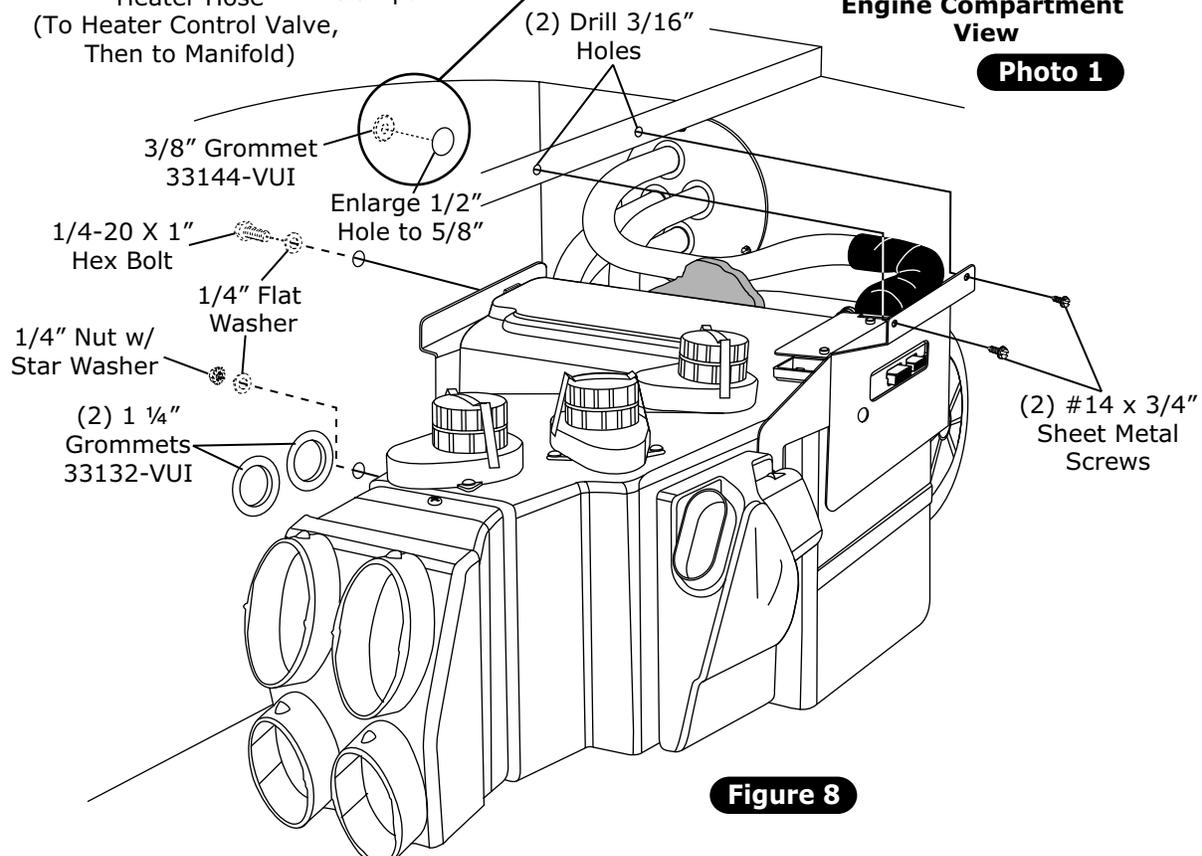

Figure 8
1. Install (2) 1 1/4" grommets in firewall (See Figure 8, below).
2. Enlarge 1/2" hole on firewall to 5/8" and install 3/8" grommet as shown in Figure 8 and Photo 1, below.
5. Using front evaporator bracket as a guide, mark and drill (2) 3/16" holes in cowl (See Figure 8, below).
6. Using (2) #14 x 3/4" sheet metal screws, secure the front evaporator mounting bracket to the inner cowl (See Figure 8, below).